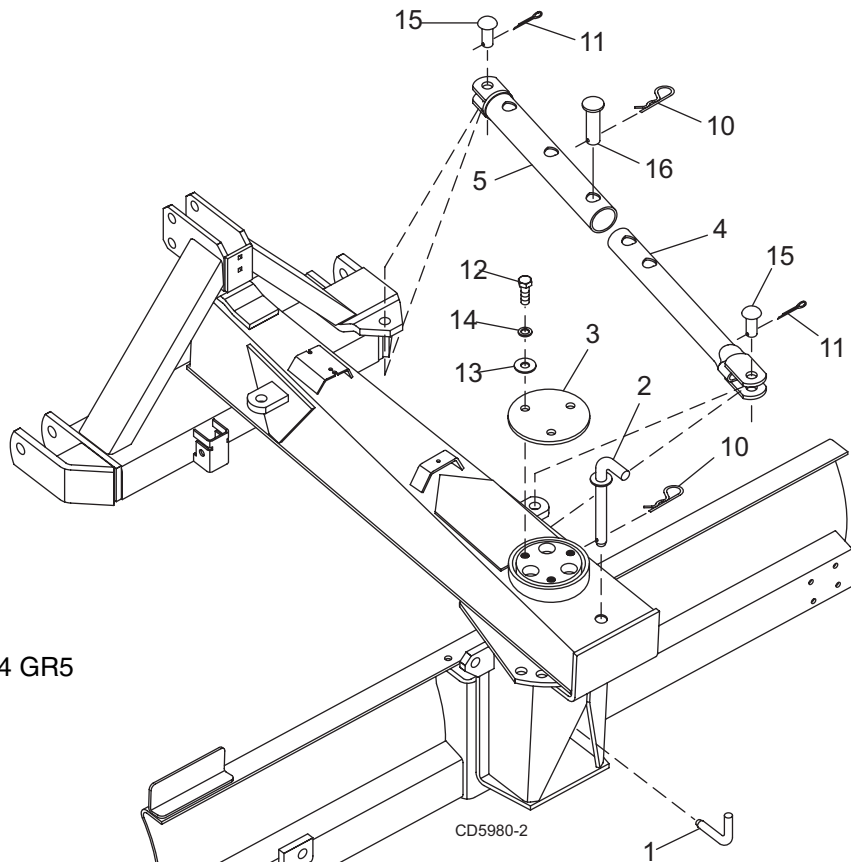
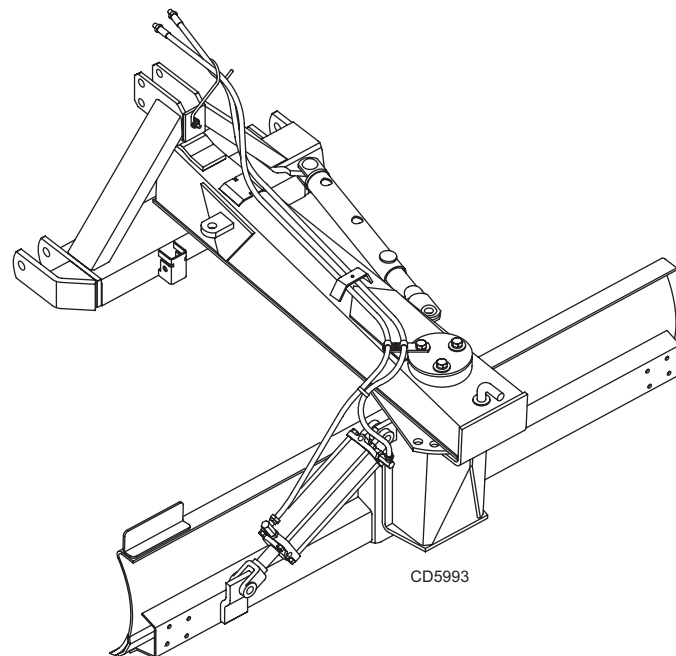

Figure 13. Manual Configuration
Figure 17. Tilt Kit Hose Routing
1. Model M only - Place boom and pivot assembly to desired position. Align holes at bottom of pivot assembly and insert tilt lock pin (1) as shown. Rotate pin to lock into position.
2. With boom 90 degrees to the blade, place retaining cap (3) on boom as shown in Figure 13.
3. Install three cap screws (12), lock washers (14), and flat washers (13) to secure boom to blade assembly.
1. Remove lock pin assembly (2) and safety pin (10) from rear of boom, if previously installed. See Figure 13 on page 18 for lock pin assembly location.
2. Remove hardware and retaining cap (3) from top of boom if previously installed. See Figure 13 on page 18 for retaining cap location.
NOTE: Remove tilt lock pin (1) before installing hydraulic tilt kit. See Figure 13 on page 18 for lock pin location
1. Attach hydraulic cylinder (1) to blade assembly and pivot assembly as shown. Secure with pins supplied with the cylinder.
2. Install adjustable elbows (2) and hoses (6) to cylinder.
3. Attach hose holder (4) to A-Frame using carriage bolt (18), flat washer (19), and lock nut (20). For models with hydraulic angle (TA) proceed to page 21 for hose routing.
4. Attach hose clamp (3) to hose support (5) using cap screw (15), lock washer (16), and hex nut (17). Do not tighten at this time.
5. Remove cap screw (21), lock washer (23), and flat washer (22) from forward position on retaining cap as shown.
6. Position hose support (5) over hole and reinstall hardware.
7. Route hoses as shown in Figure 17.
8. Position hose support (5) and tighten hardware.
9. Place hoses in hose clamp (3) and tighten hardware. Leave adequate slack in hoses to allow for tilt and angling of blade.